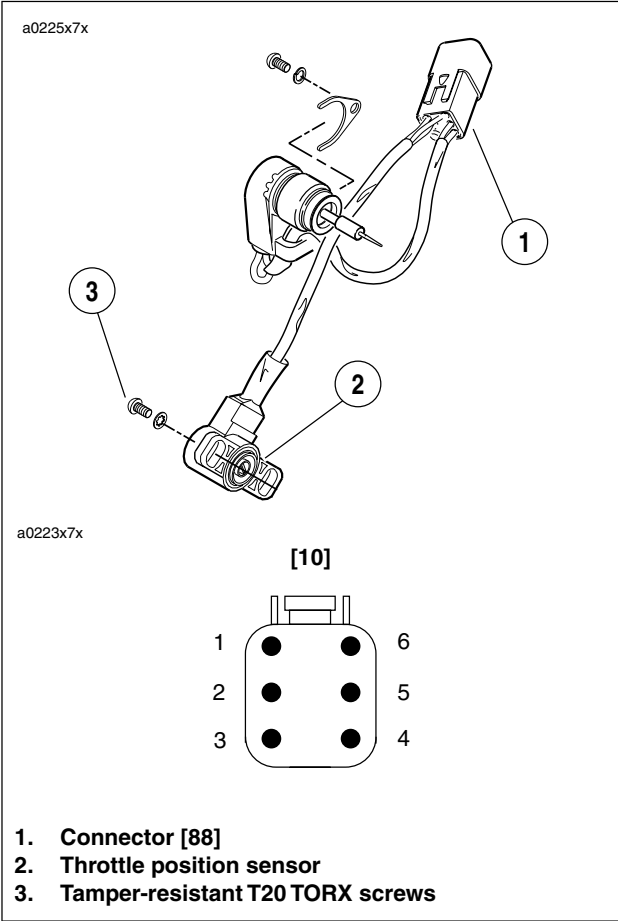

Figure 7-10. Throttle Position Sensor
See Figure 7-10. The throttle position sensor voltage determines which spark advance curve the ignition module selects. The throttle position sensor (TP Sensor) is located on the carburetor. The TP Sensor is not repairable. Replace the unit if it fails.
f. Turn ignition switch to ON. Using a multimeter, measure voltage between pin 3 (V/W) and pin 5 (BK).
h. Completely open and close the throttle by rotating the throttle control through its full range of motion. Wide Open Throttle (WOT) should not exceed 3.7V and reading should increase consistently as throttle is opened. If the voltage reading is erratic or the voltage reading at WOT exceeds 3.7V see Figure 7-10 for diagnostic testing.